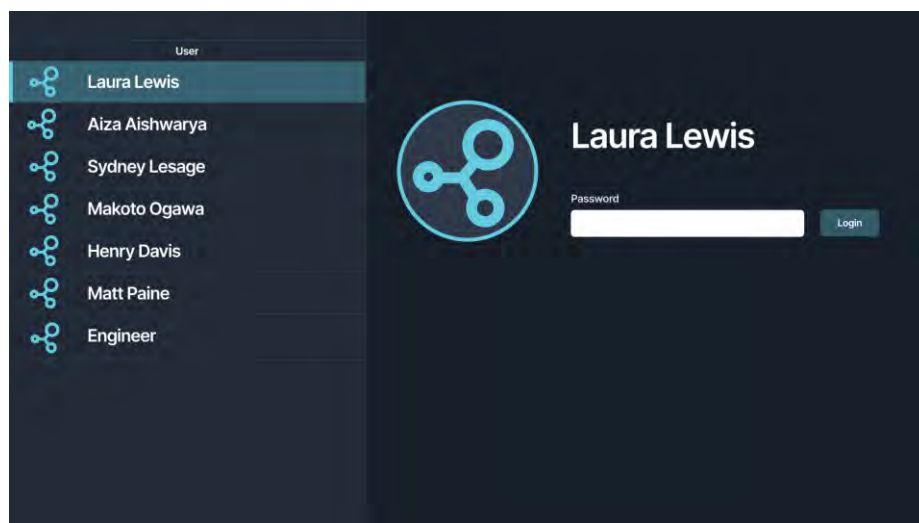

Figure 5.2: User login selection
1. Once the Alto instrument is turned on, the main login view with user selection is displayed. This allows the user to select themselves from the list of users as shown in Figure 5.2.